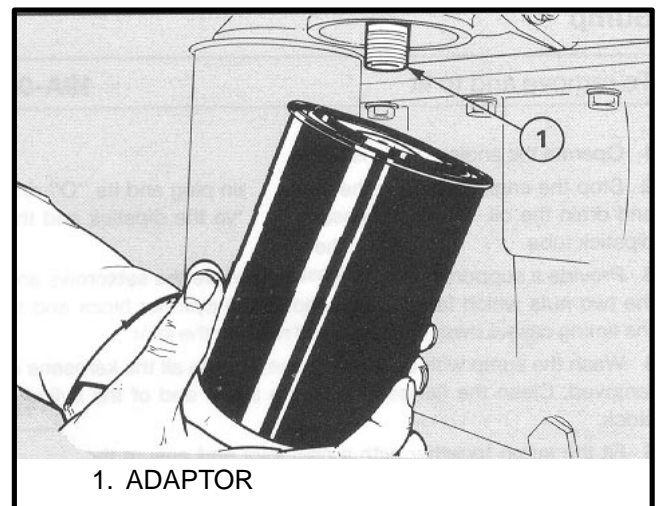

FIGURE 74. OIL FILTER
1. Change the oil filter when the engine oil is changed. Put a drain pan under the filter. Remove the filter cartridge. Make sure the adaptor stays in the filter head as shown in FIGURE 74. Discard the filter cartridge.